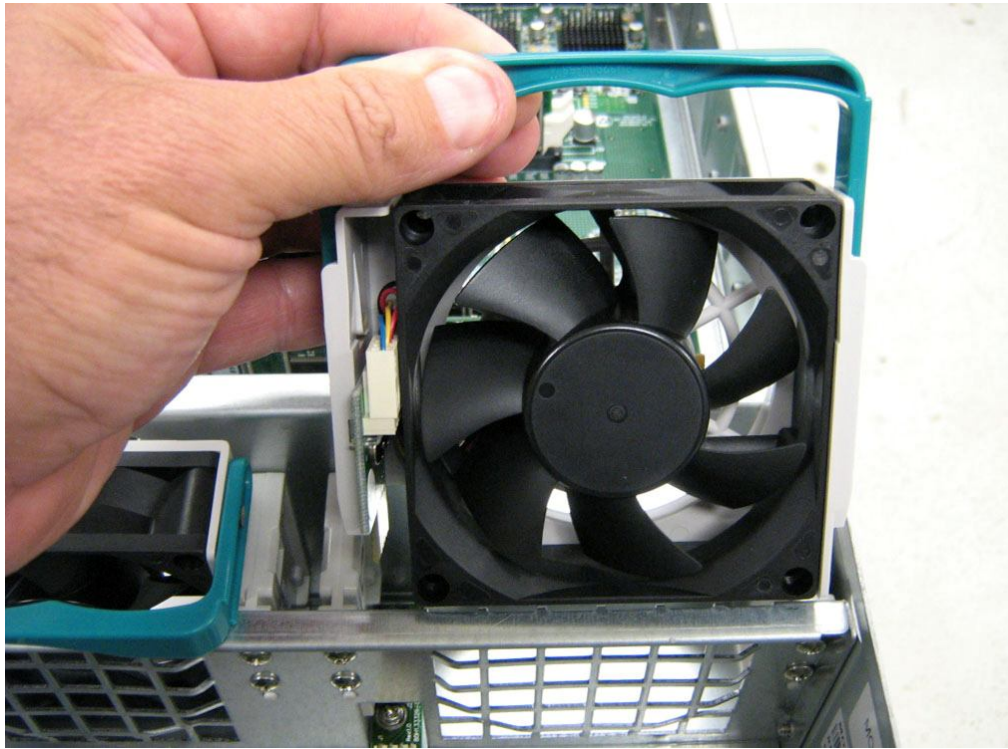

Figure A-18 Remove the Fan
3. Remove the fan from its socket as seen in Figure A-18.